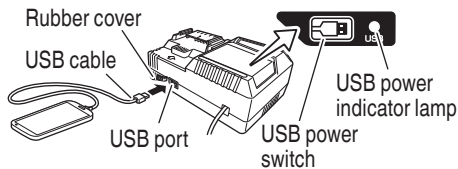

Fig. 8
- (2) Turn the USB power switch ON (Fig. 8)
- (3) Connect the USB cable. (Fig. 8)
- (4) When charging is completed
- Turn the USB power switch OFF and unplug the power cord from the electrical outlet. (Fig. 8)